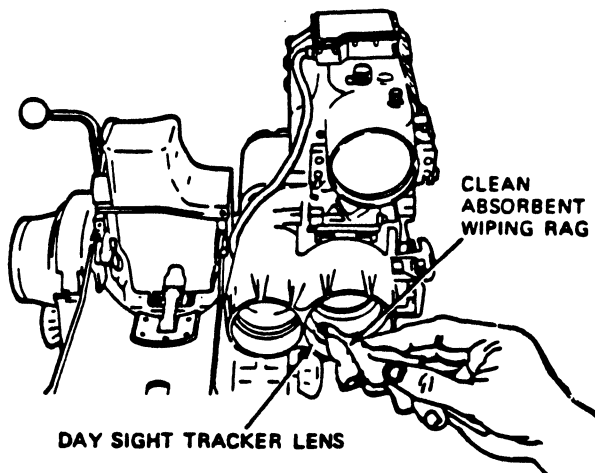

Fig 5-4. Wiping day sight tracker lens.
2. Lightly wipe the lens surface with a folded lens paper starting at the center of the lens using circular motions slowly moving outward (fig 5-4).